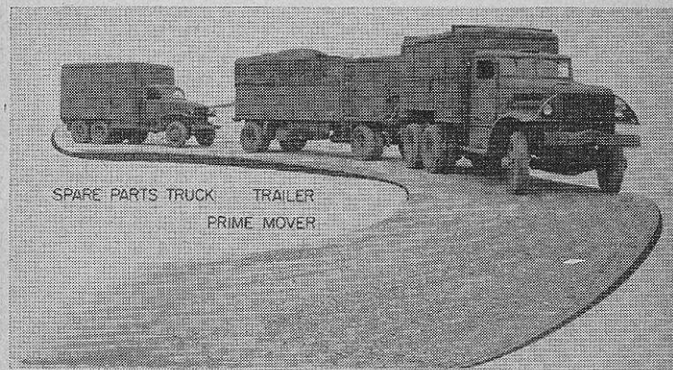

FIGURE 1.—The SCR-545-A.
■ 5. COMPLETE EQUIPMENT.—a. Figure 1 shows the truck and trailer comprising the SCR-545-A. Two 2½-ton van body trucks and one 2½-ton cargo truck are provided in the field per gun battalion for carrying spare parts and accessories.